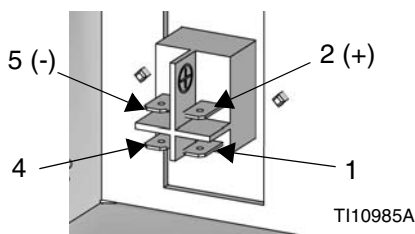
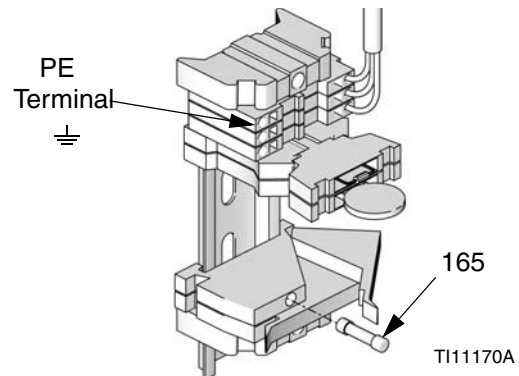

FIG. 36
FIG. 37
2. Mount 24 Vdc module (154) on mounting bracket (151).
3. Mount power switch (159) on mounting bracket (151).
4. Attach quick disconnects on cable from 24 Vdc module (154) to terminals on power switch (157).
5. Install power supply output cable to CAN cable (163).
6. Attach 24 V Class 2 power supply to terminals on the power switch: +24 Vdc to terminal 2 (+) and 24 Vdc return to terminal 5 (-). See FIG. 36. Attach protective earthing (PE) conductor to terminal marked \perp . See FIG. 37. The 24 Vdc power supply must be capable of supplying at least 1.0 Amp and have supply current protection rated at no more than 2.5 Amps.
7. Install cover plate (160), screws (156), and washers (164).